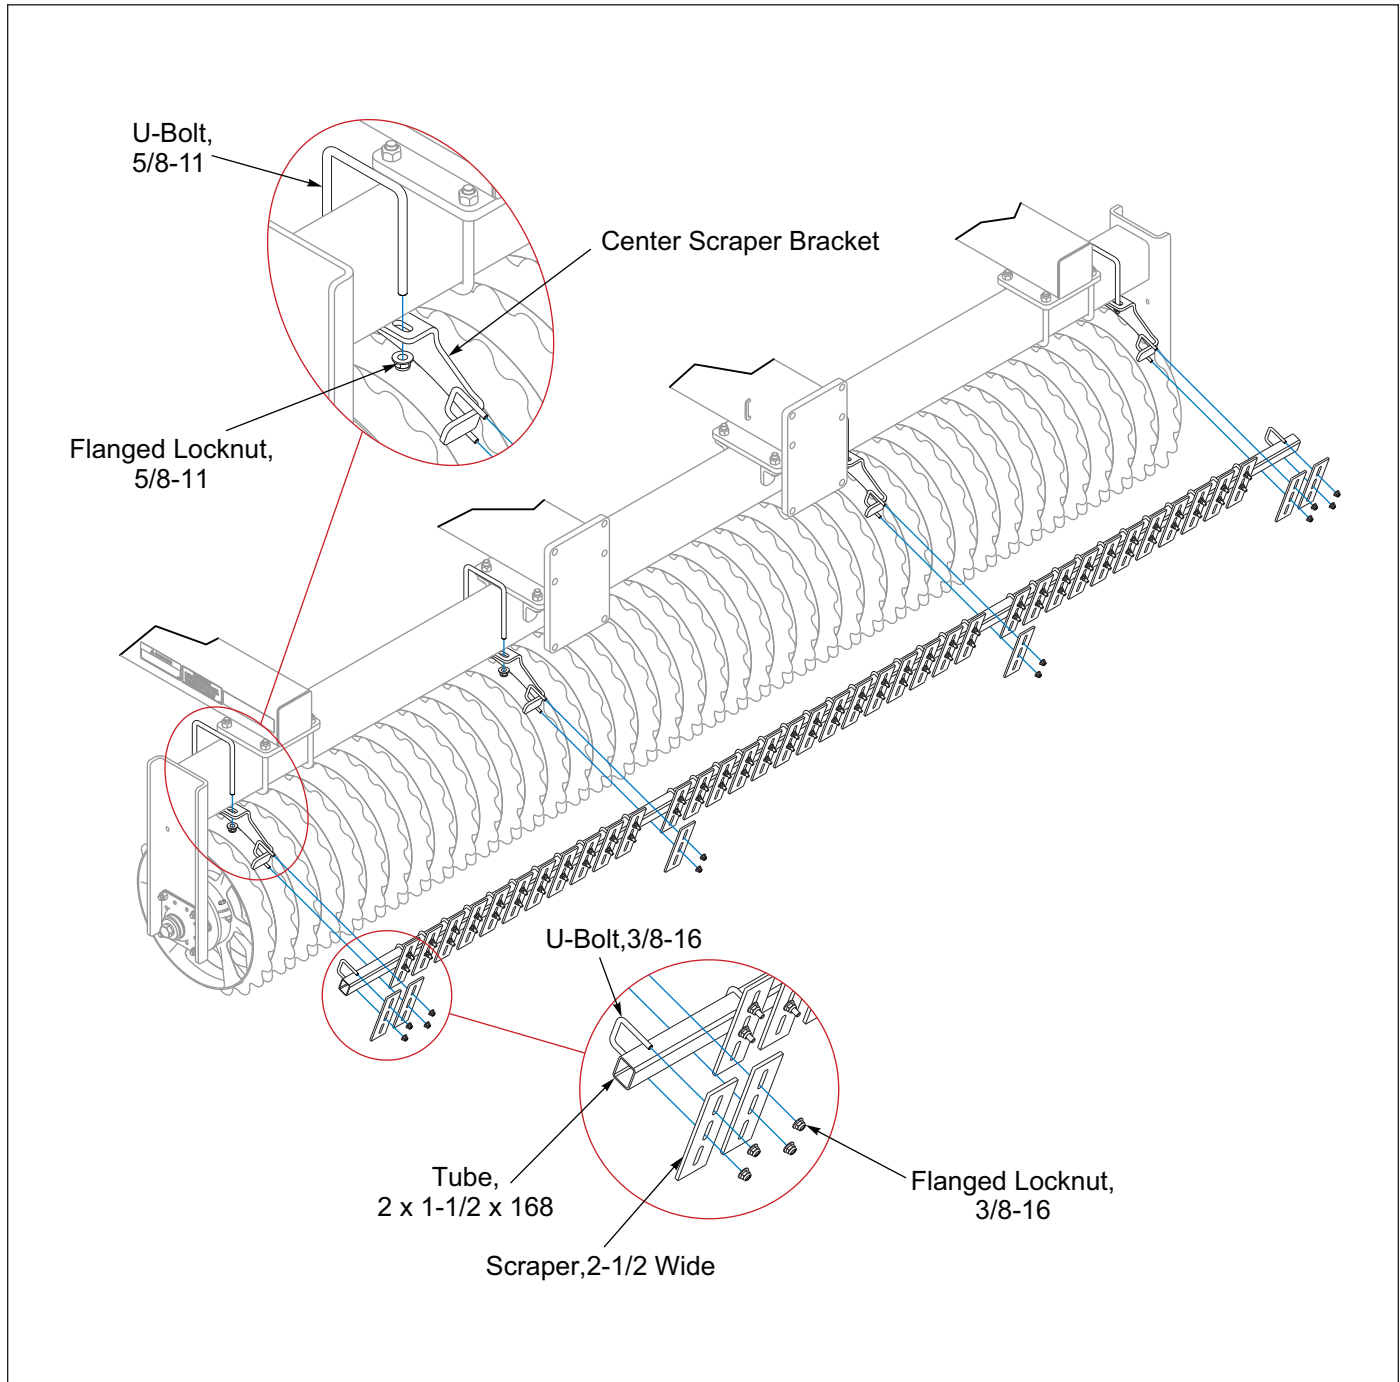

Figure 2-65: Center Rear Scraper Installation
1. With the Rollers on level ground, place the 5/8-11 U-Bolts over the frame tube and through the Center Scraper Brackets, secure with Flanged Locknut. See Figures 2-65 and 2-66.